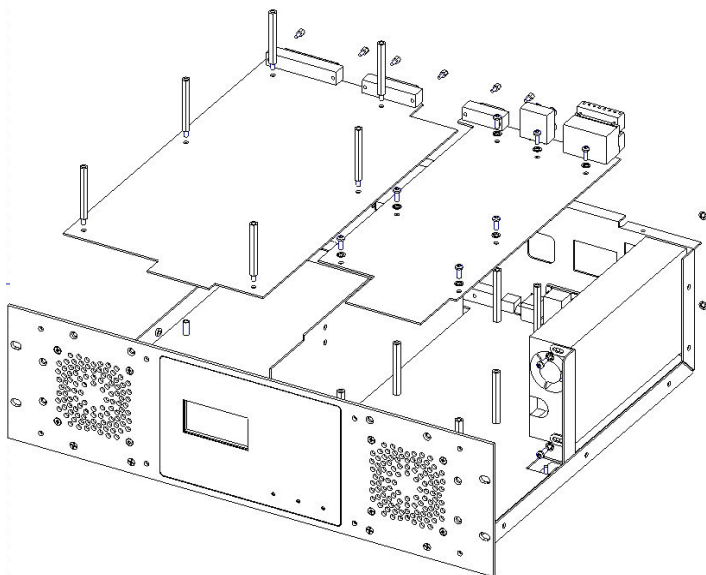

Figure 3 View showing standoffs on PCC and SCC1
- 4.2.5 Using the 3/16" nutdriver remove the two #4-40 female screw locks holding the DB-37 connector to the back plate. (An SCC-300 has two additional #4-40 female screw locks for the DB-25 connector that need to be removed.) When replacing the screw locks you should apply blue locktite. (See Figure 3)